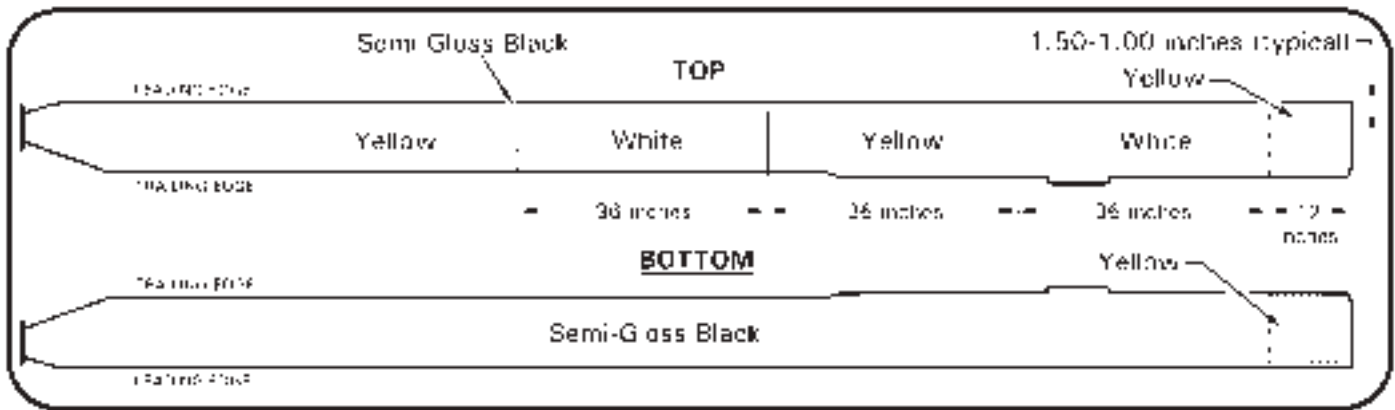

FIGURE 9-17 C016-7 AND C016-5 MAIN ROTOR BLADE PAINT SCHEME
- 6. Refer to Figures 9-17 & 9-18. Apply dark gray, flat black, white, and/or yellow polyurethane enamel, as required, to primed area in accordance with paint manufacturer’s recommendations.